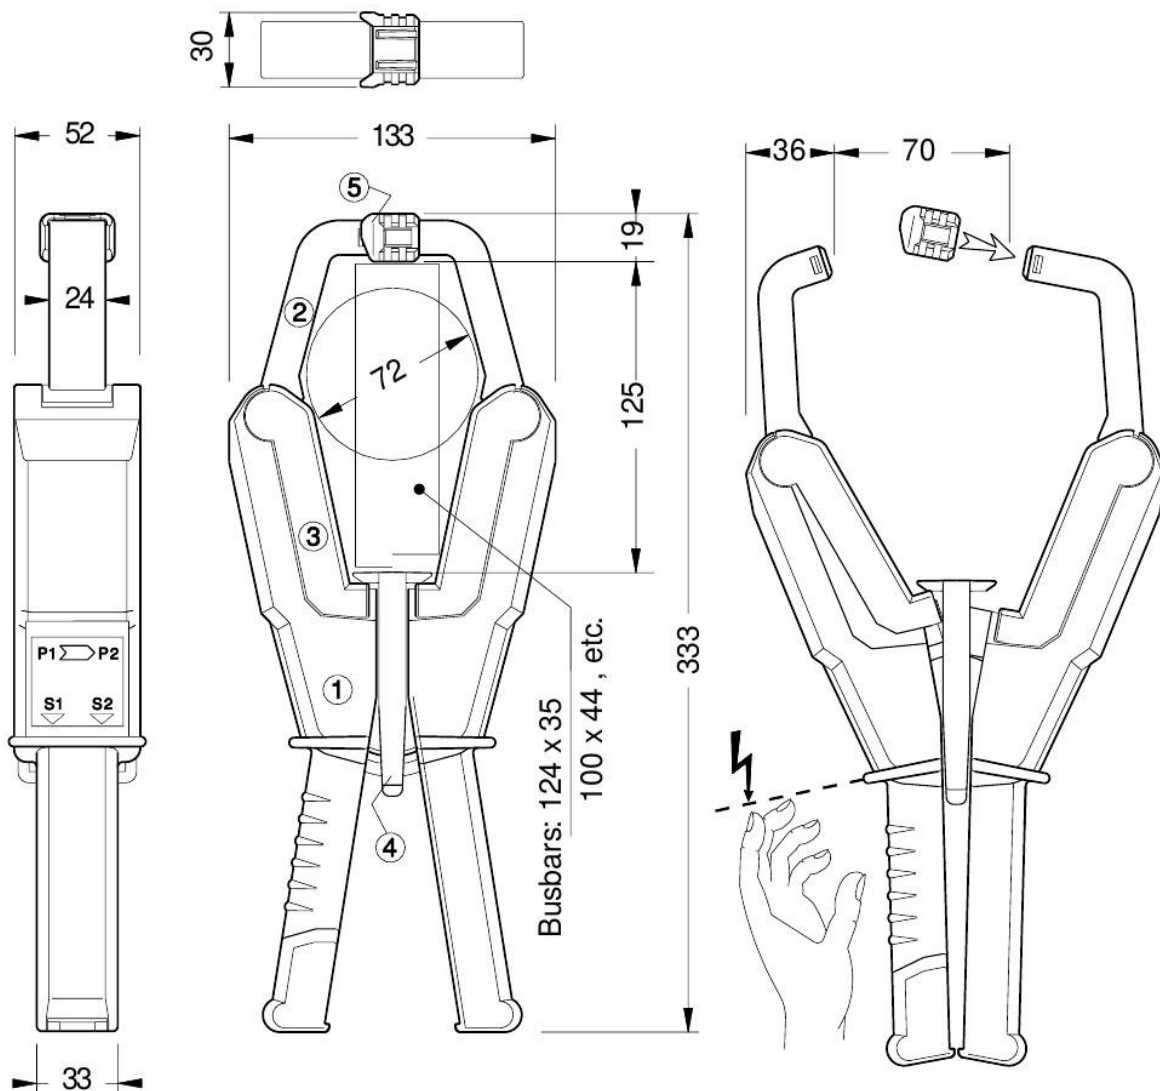

Figure 2.82: Dimensions in mm and protection against electric shock and short-circuit
- Use safety cover 'P' Figure 2.82 [→93] for protection against short-circuits during clamping!